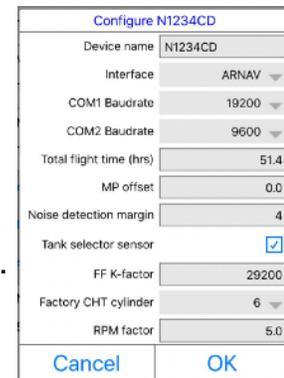

Figure 3 - BlueMAX app:
3. Now choose "Firmware upgrade". A dialog will appear (see Figure 3) and if an upgrade is available will prompt to install it. Tap Update. If no upgrade is available the dialog will disappear with a message "Firmware is up to date."